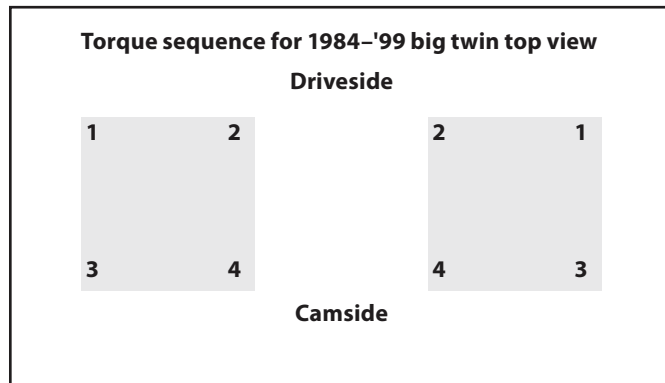

Figure 7
- G. Bolt heads on cylinders. Tighten bolts in stages using crossing pattern. **See Figure 7.** If using stock crankcases, follow the same bolt tightening sequence, but use stock three stage procedure and torque values shown. If using other aftermarket crankcases, contact the manufacturer for recommended head bolt torque specifications.